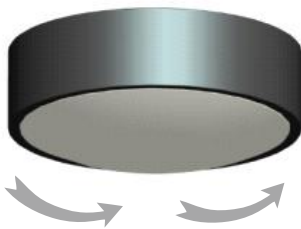

Fig 1.1
1.1 Take the light set out of the box and turn the lampshade counterclockwise to disassemble it as shown in Fig 1.1, and then remove the LED light kit out of the light kit pan directly as light kit is fixed by magnetic attraction.